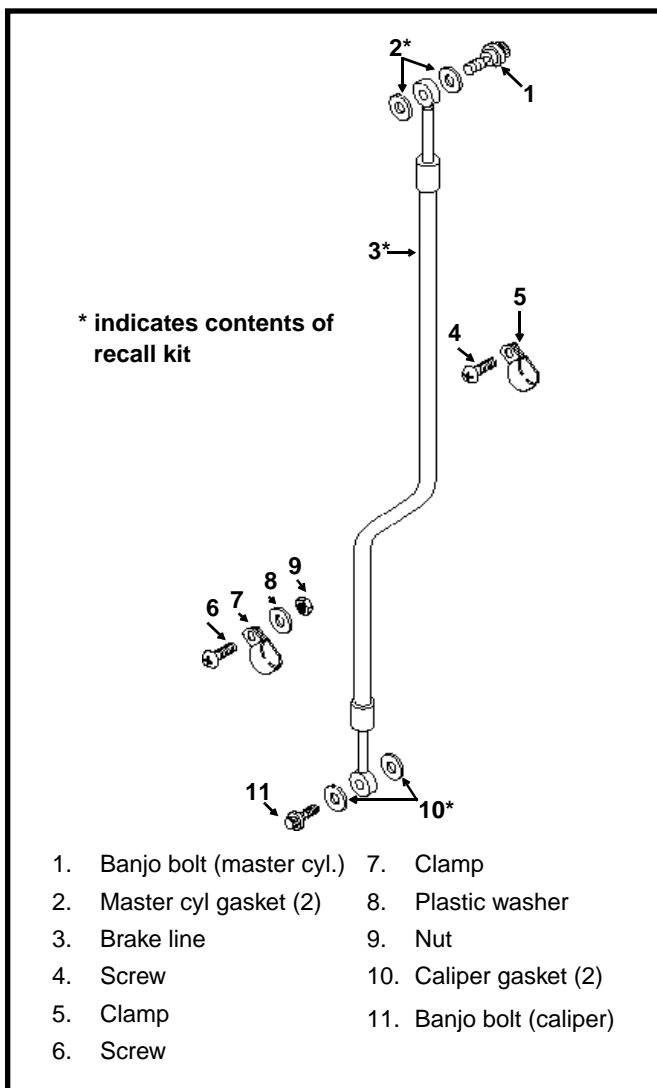

Figure 1. Front Brake Line
2. See Figure 1. Remove screw (4) to detach brake line clamp (5) from front fork lower bracket (right side).